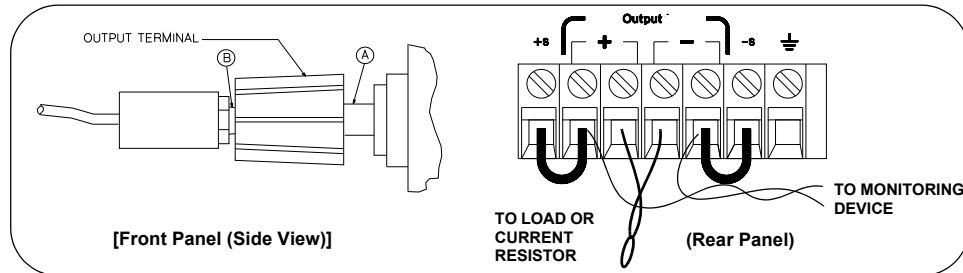

Figure A-2 Front/Rear Panel Terminal Connections
When measuring Vrms ripple and noise, the monitoring device should be plugged into the front of the terminals at (A) in Figure A-2. Use the vertical mini-probe socket and the "1:1 voltage probe" to connect the monitor device to the power supply. To reduce the measurement error caused by common mode noise, it is recommended to twist the connection wire between the mini-probe and the output terminals. The load resistor is connected to the terminal at (B) in Figure A-2. Twisted leads between the load resistor and the power supply helps reduce noise pickup for these measurements.